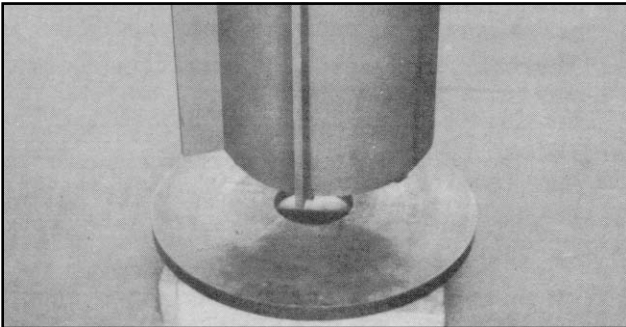

Figure 25
11. Insert an eyebolt into tapped hole in bottom end of rotor shaft (shaft nut with loop for the JB10). Raise rotor assembly and set on a suitable wooden block or metal plate, Figure 25 (see Page 3).